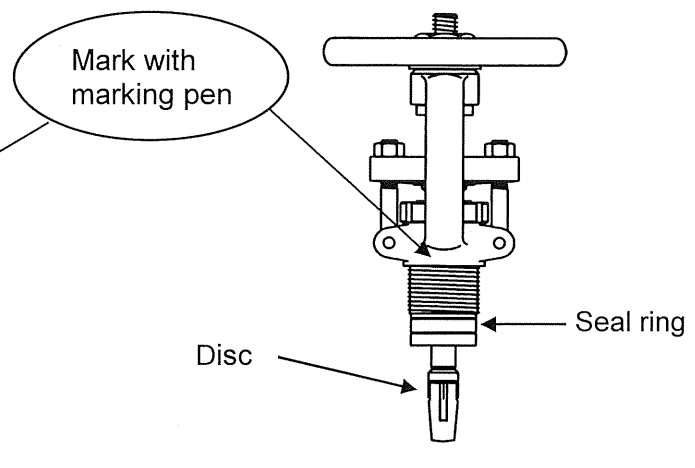

Figure 7.2 Example for Marking
- 4) Make the match mark on the disc by marking pen as shown in Figure. 7.2 before remove the disc from the stem. When re-assembling the valve, match marks between the body and the disc shall be coincided. As it is, valve seat contact surfaces are coincided as before condition and valve leakage can be prevented.